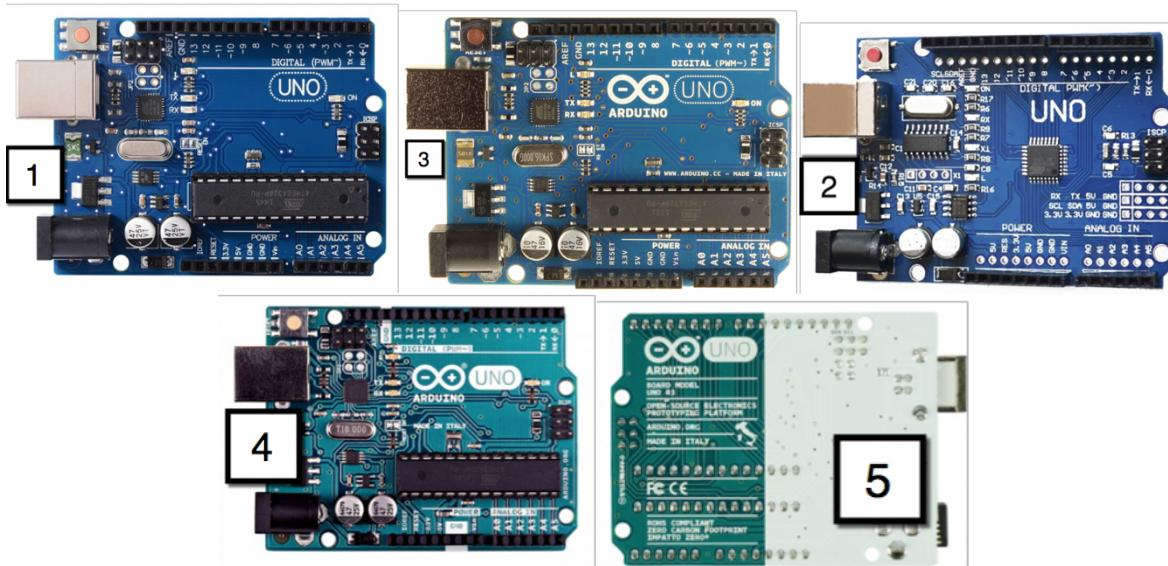

Figure 1
4.1 CH430 – Refer to Board #2 at Fig 1